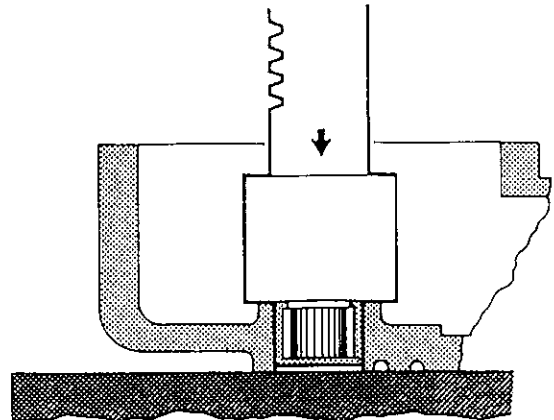

Figure 5.16
1. Press a new gear case bearing (7) into gear case (4) flush to .010" (.254 mm) below surface of gear case and pack with Lithium base grease. See Figure 5.16.